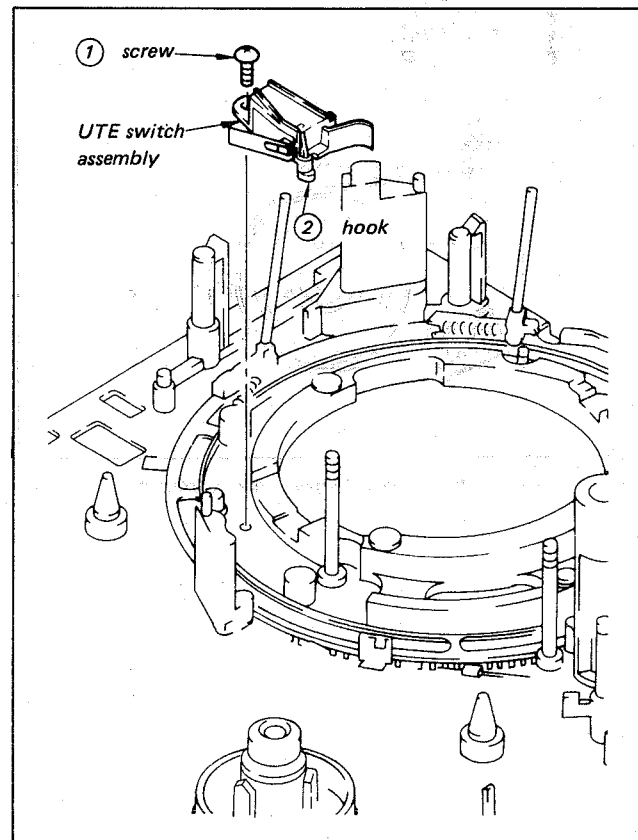

Fig. 3-38. Removing UTE Switch
- 1) Unscrew screw ① as shown in Fig. 3-38.
- 2) Release the switch hook ② from the chassis and remove the switch body while pushing the actuator to the "ON" position.